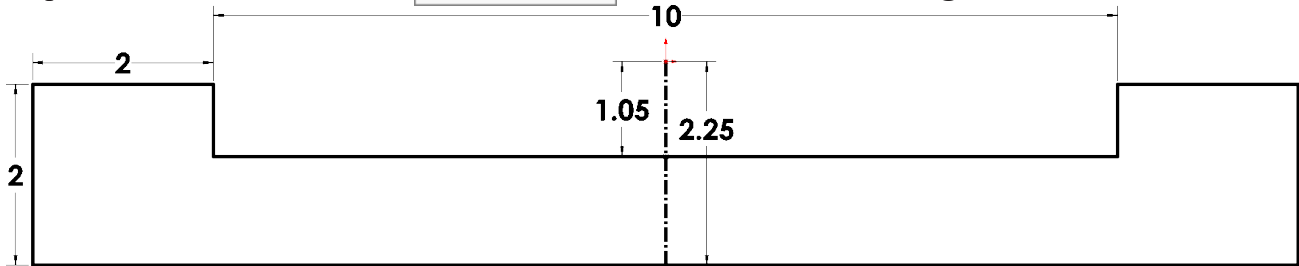

Fig. 6
Step 2. Click **Mirror Entities**  **Mirror Entities** on the Sketch toolbar, **Fig. 6**.